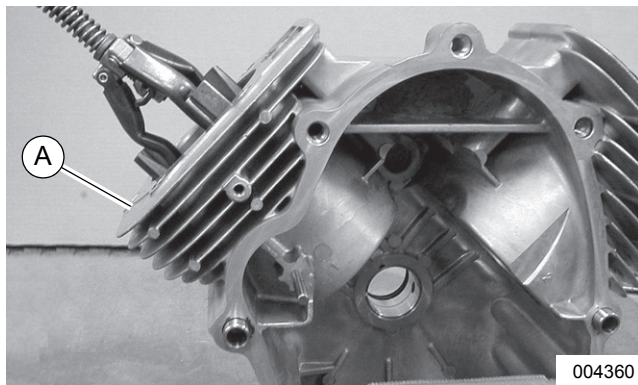

Figure 11-5. Honing Cylinders
1. See **Figure 11-5**. Use two crankcase cover mounting screws to fasten honing fixture (A) to crankcase.